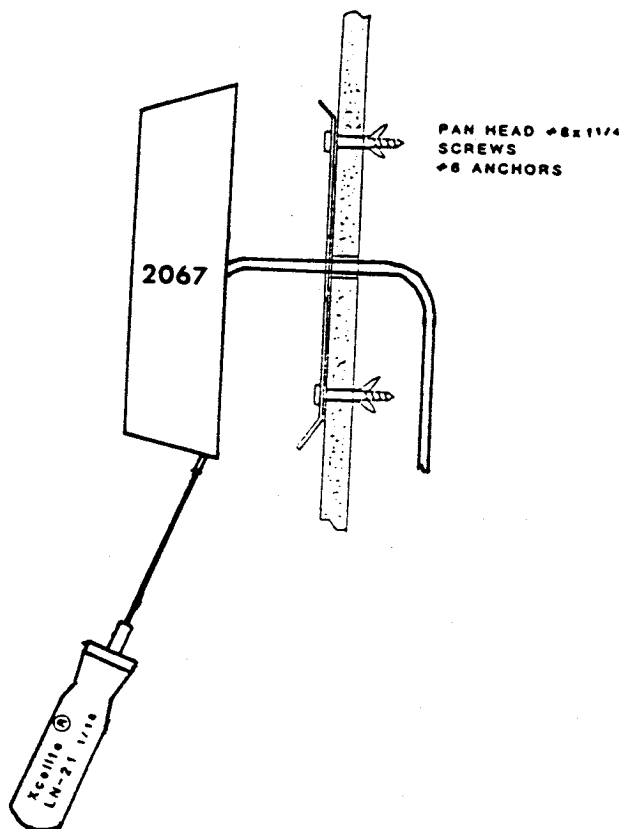

FIGURE 14
The Model 2067, or 2068 keystation attaches to the supplied bracket which may be mounted to a double-gang electrical box or directly to a wall surface using the appropriate fasteners. Mount the bracket with the longer tabs down. Pull the wires, from the 2735 through the center opening of the bracket and splice the wires to the supplied pig-tail cable using type B low voltage wire connectors. Slip the 2067 over the bracket's upper tabs and carefully rotate the 2067 down until the entire keystation is flush with the wall. Using a 1/16" Hex Key wrench (Xcelite Model LN-21 or equivalent), tighten the two set screws on the bottom of the 2067 until it is secured to the bracket. Refer to Figure 14 for this procedure. **NOTE:** A maximum of four (4) 2067 keystations may be used per 2735 control panel under normal conditions. Two additional 2067's can be used if their speakers are disabled (cut speaker wire).